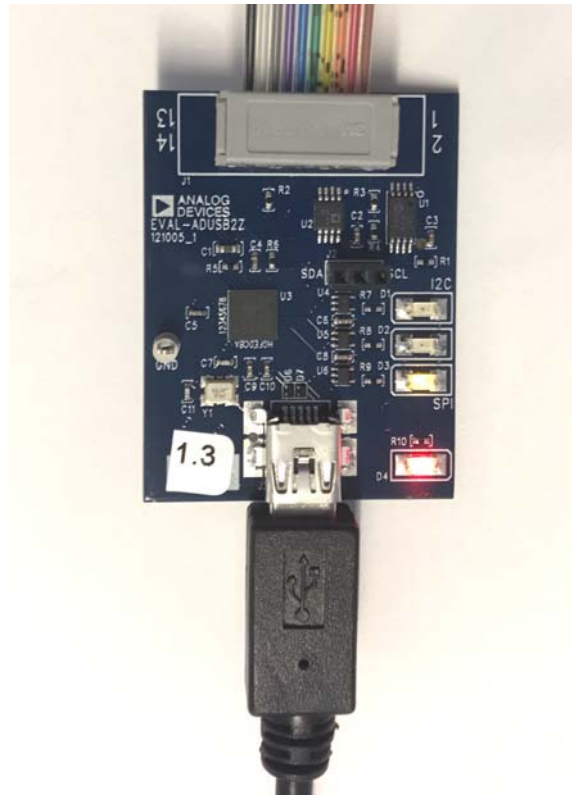

Figure 7. **State of USBi Status LEDs After Driver Installation**
- With the USBi still connected to the USB 2.0 port of the computer, check that both the yellow I2C LED and the red power indicator LED are illuminated (see Figure 7).